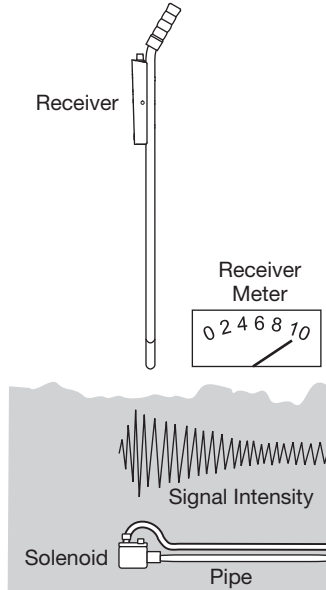

Figure 6 – Locating Broken Wire End
**Step 1.** Start at the clock. Connect the red transmitter lead to the station wire leading to the subject valve, and connect the black lead to earth ground. Turn the transmitter on, adjust the output to the highest level, assemble the receiver, locate the path, and start tracing the wire following the null. The null will be present until you pass over a solenoid valve, and then the signal will become extremely strong. Mark this spot. Check around this hot spot for a null leaving the area. If the null continues, follow it and mark any additional hot spots. (Refer to Figure 6.) If only one hot spot or valve is located, it will be the valve in question.